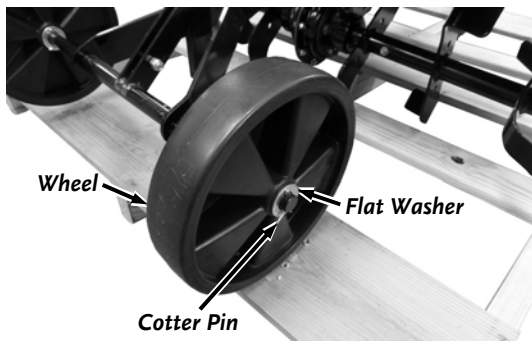

Figure 3
1. Position the Wheels onto the Axle against the Washers and Cotter Pins that were left on the Axle (**Figure 3**).